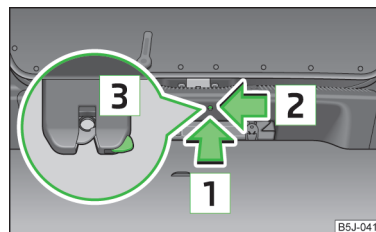

Fig. 37
- Insert a screwdriver or similar tool into the opening in the trim in the direction of the arrow [1] » Fig. 37 as far as the stop.